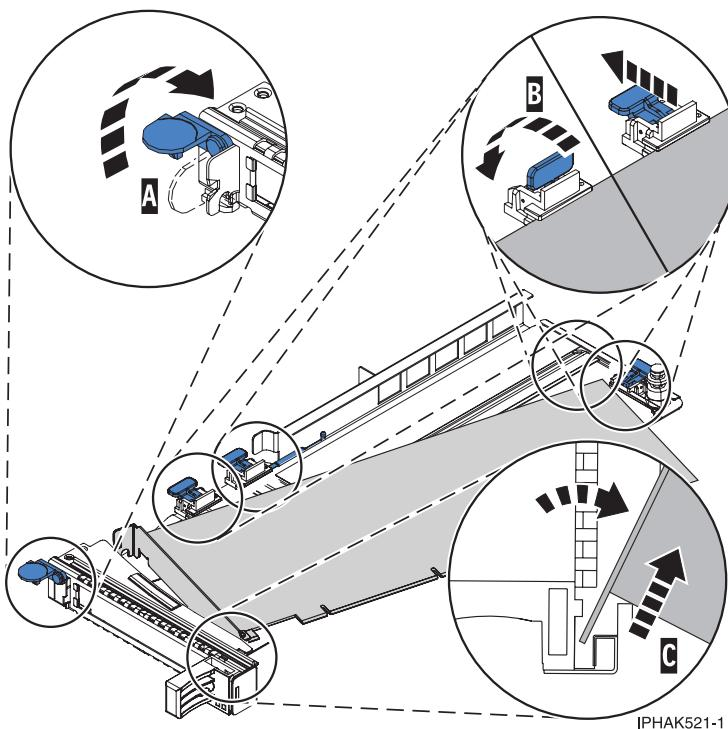

Figure 39. Adapter removed from the PCI adapter cassette
- a. Unlock the adapter retainers by rotating the retainer clip (**A**) into the horizontal position. See Figure 39 on page 43.